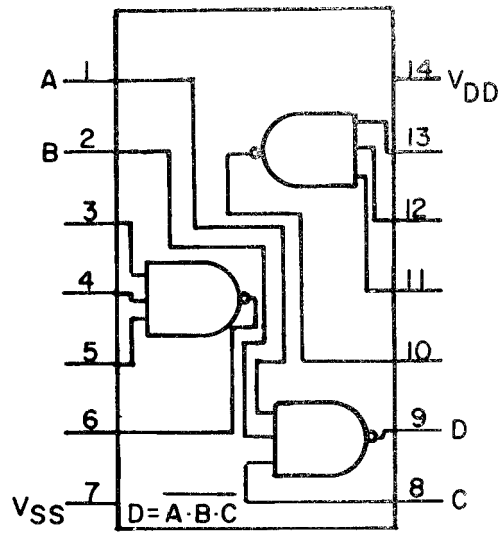

Figure 1-29. Triple 3-Input NAND Gate.
3. *Triple 3-Input NAND Gate (CD4023AE).* If all inputs of a single gate (fig. 1-29) are at the 1 logic level, the output will be at the 0 level (table 1-3). If one or more inputs are at the 0 level, the output will be at the 1 level.